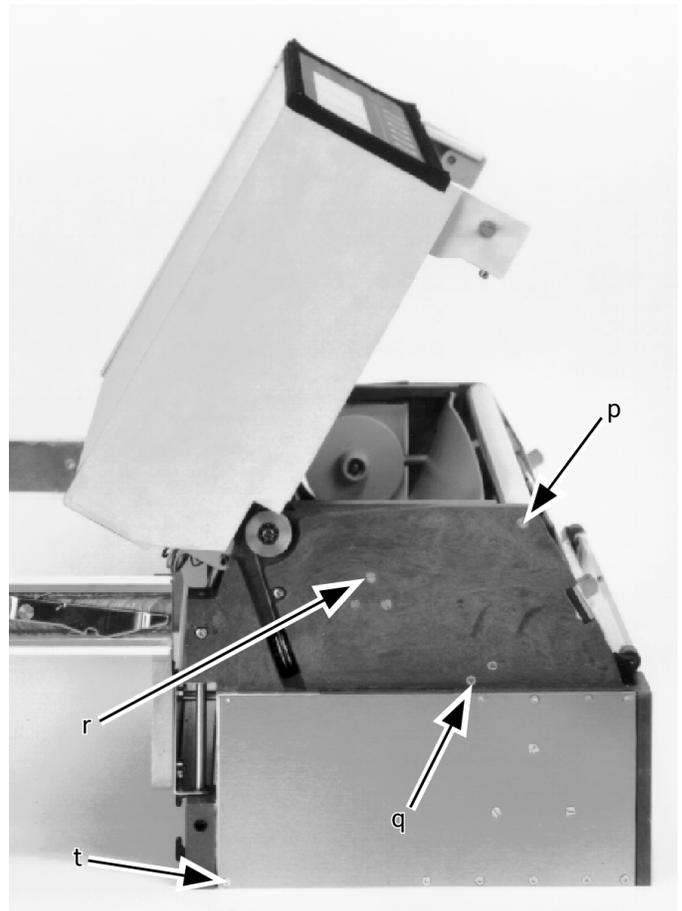

Figure 5.12.3h
- t Chart control access cover (figure 5.12.3h)